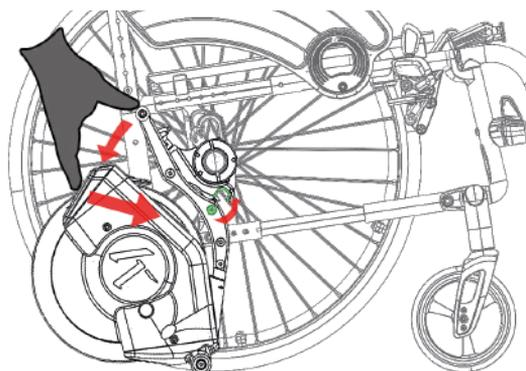

Figure 28
- Push the handle forward and simultaneously rotate the TWIST R to link it. You will hear the typical "click" that confirms that the TWIST R has been installed to the wheelchair. Move the handle up and down with force to check that it has been correctly engaged (Figure 28).